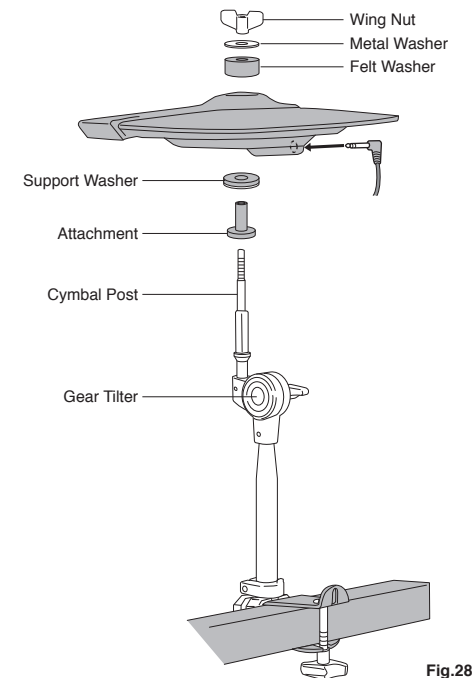

Fig.28
2. Arrange the Attachment and Support Washer in the order shown (Fig. 28).
4. Reattach the Felt Washer, Metal Washer and the Wing Nut in the order shown (Fig. 28) and tighten the Wing Nut to your preference.